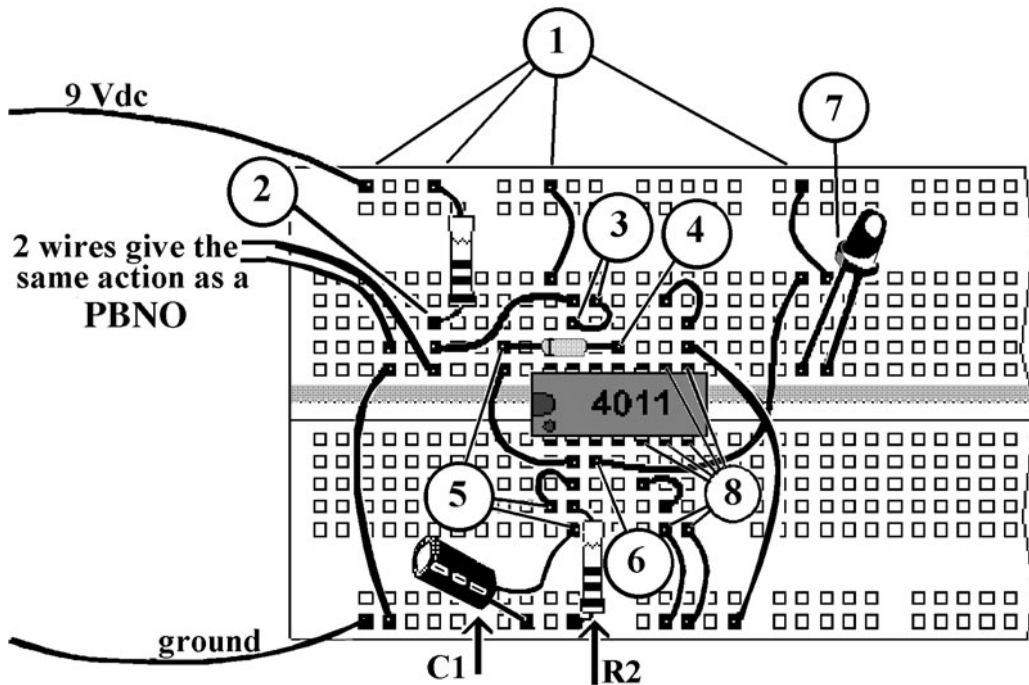

Figure L18-3
4. Now examine Figure L18-3.
TABLE L18-1 Measurements for Figure L18-3